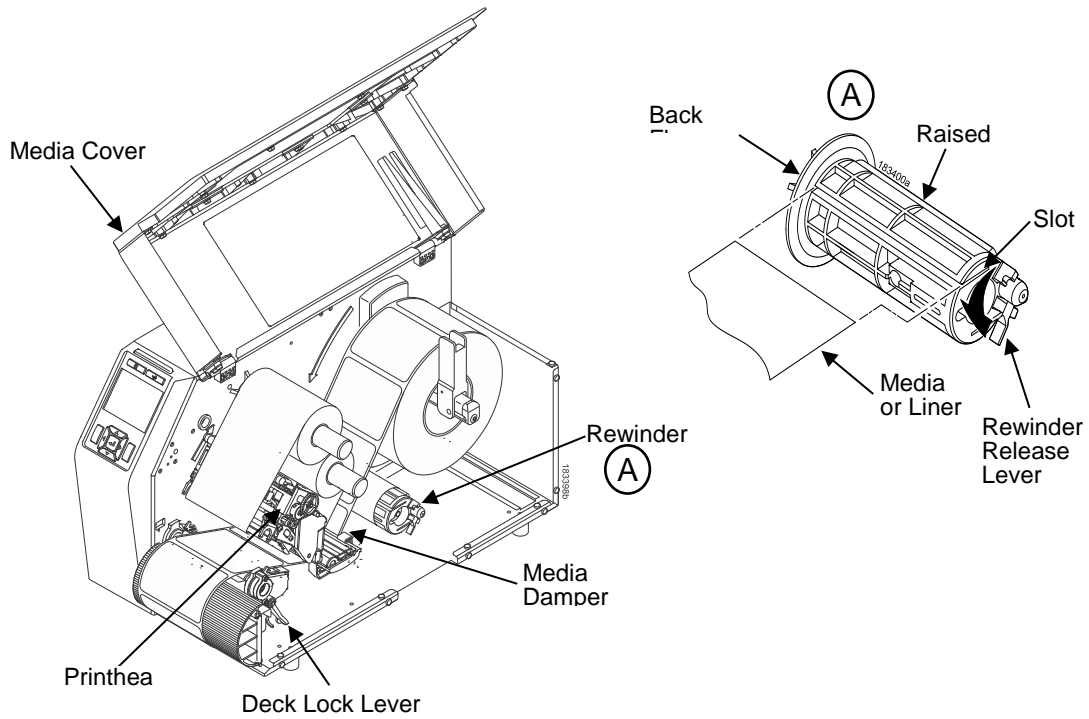

Figure 1 Loading Media
6. Slide the Media Damper Guide, ref *Figure 1 Loading Media* page 29, to the outer edge of the media.
1. Open the media cover, (ref *Figure 1 Loading Media*).